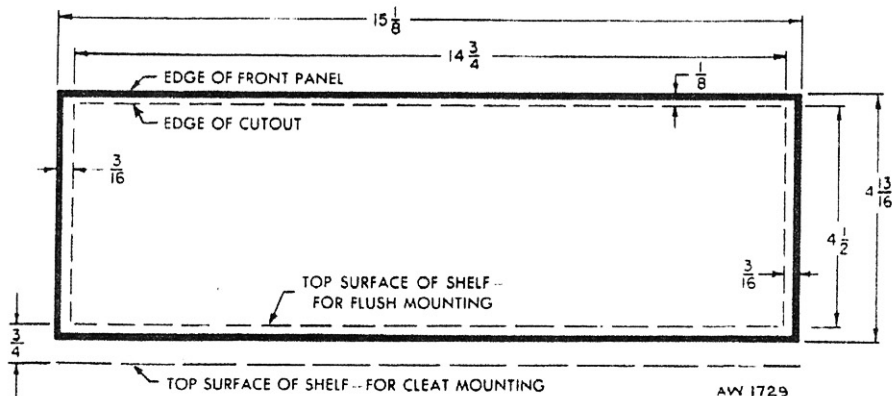

FIGURE 5. Front panel cutout.
- 3 — Saw a cutout through the front panel of your cabinet ($4\frac{1}{2}$ by $14\frac{3}{4}$ inches) as shown in Figure 5. The bottom edge of the cutout should be on a level with the top of the two cleats.
- 3 — Saw a rectangular cutout through the front panel of the cabinet to the dimensions shown in Figure 5. Note that the bottom edge of the cutout is flush with the top of the shelf.